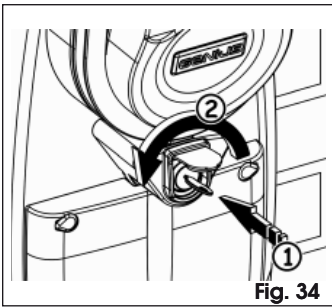

Fig. 34
1. Insert the personalised key and take the beam to its "STOP" position rotating it anti-clockwise until it stops, Fig. 34.